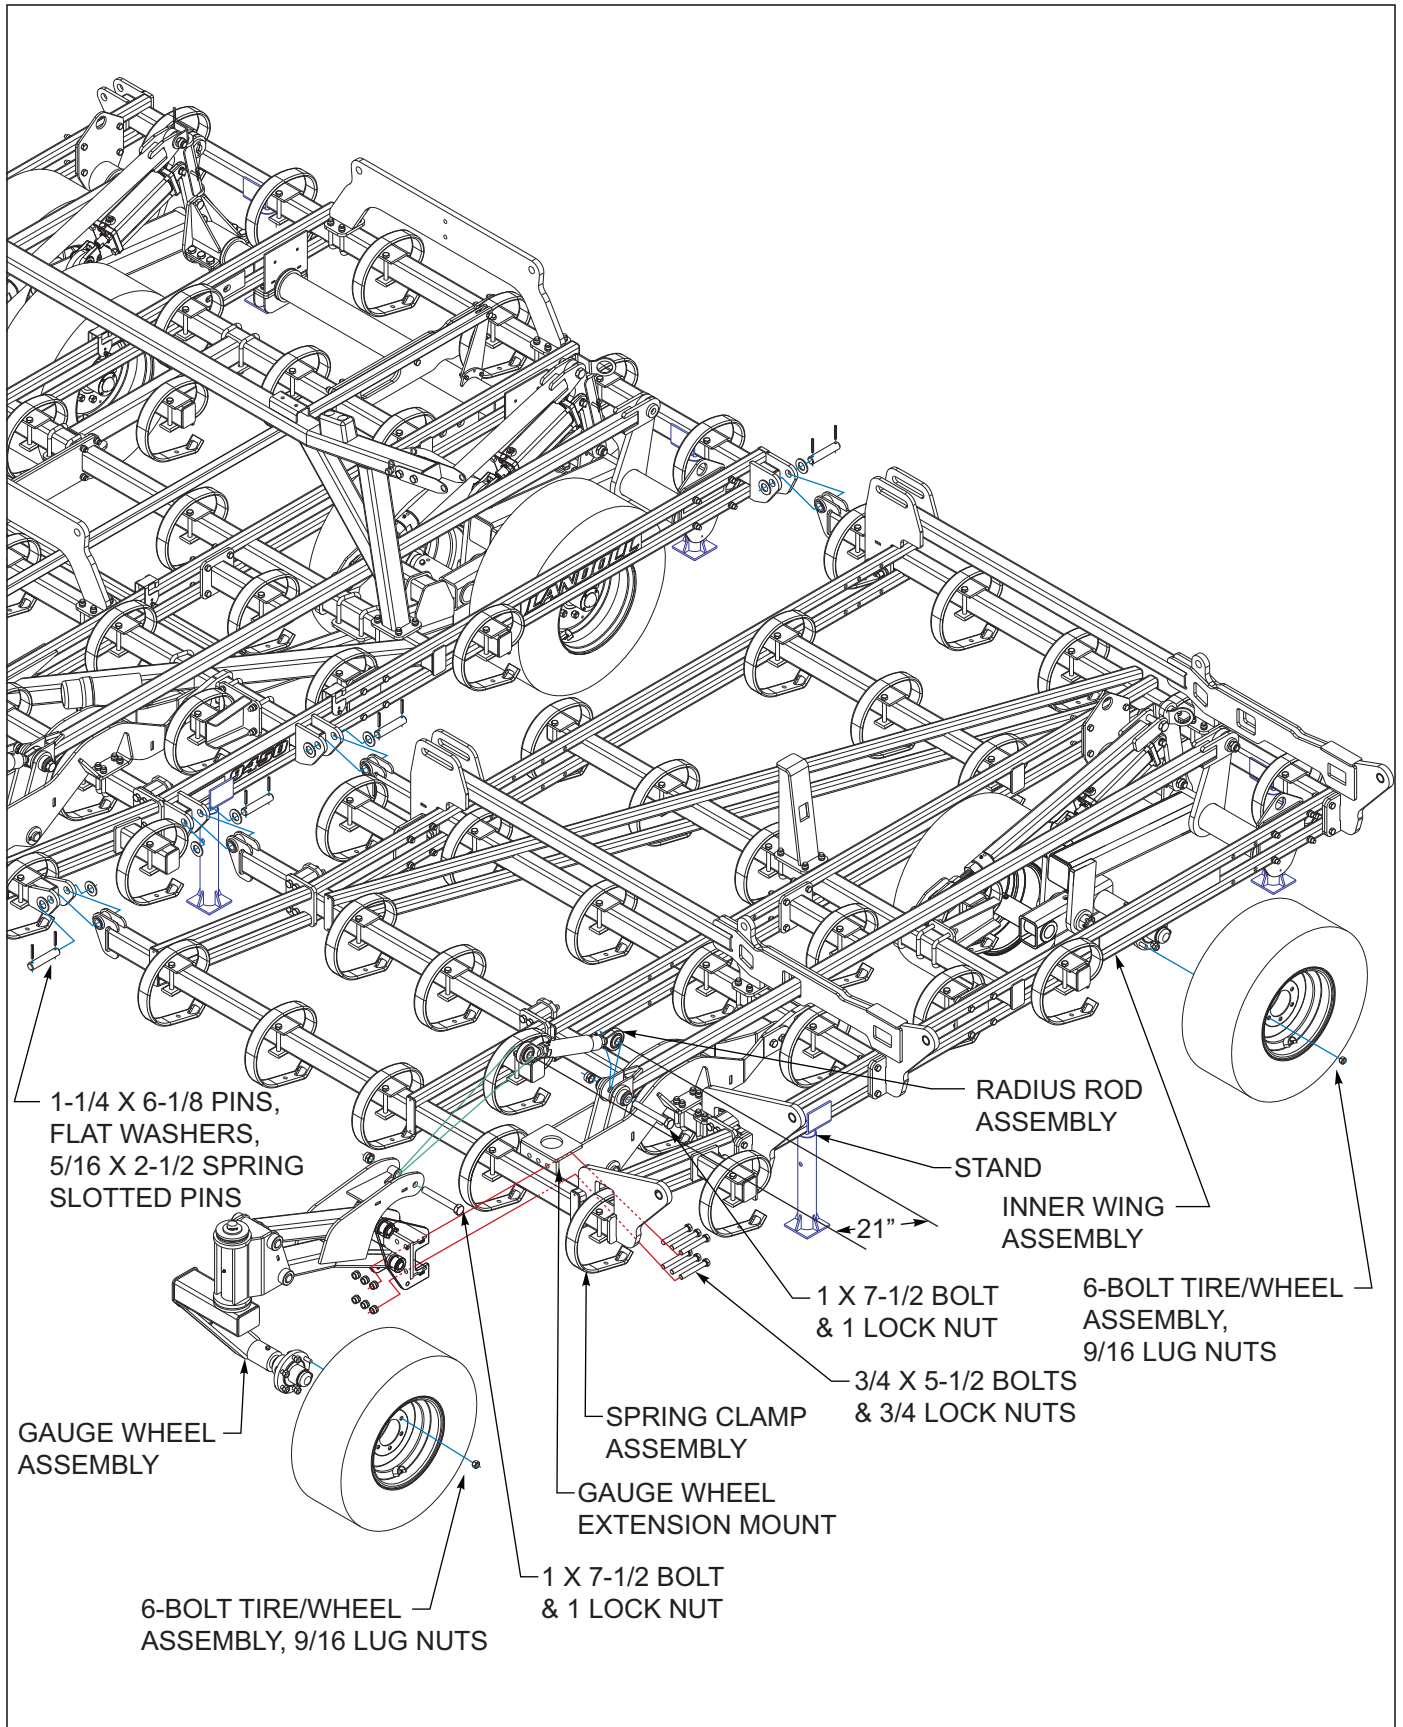

Figure 3-5: Inner Wing Assembly
1. Attach inner wing frame assemblies to center frame using flat washers, 1-1/4 x 6-1/8 pins and 5/16 x 2-1/2 spring slotted pins **See Figure 3-5**.
1. Remove the 1 x 7-1/2 bolt and 1 lock nut from the gauge wheel extension mount assembly **See Figure 3-5**.